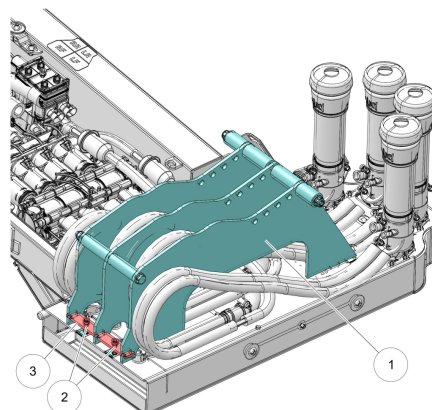

Figure 31. Twin tube segregator
12. Install the twin tube segregation (1) to the mothership and slide it away from the teat cups to bring it in locking position (see figure 31 on page 5-16).
13. Install the locking strip (3) with the two bolts (2).